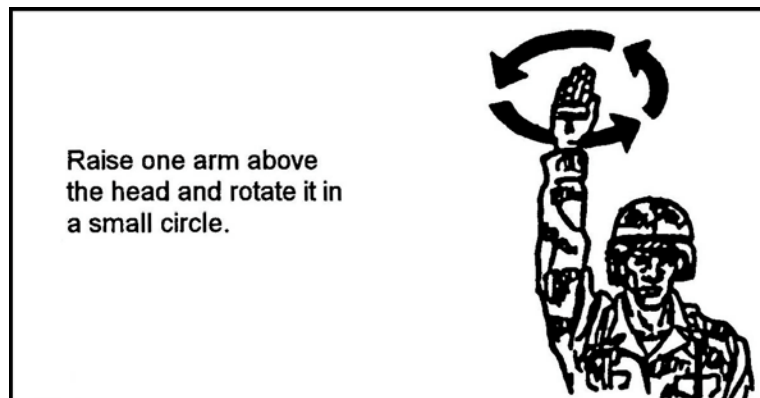

Figure 1. Coil.
- a. Perform formation signals coil and herringbone (Figures 1 and 2).